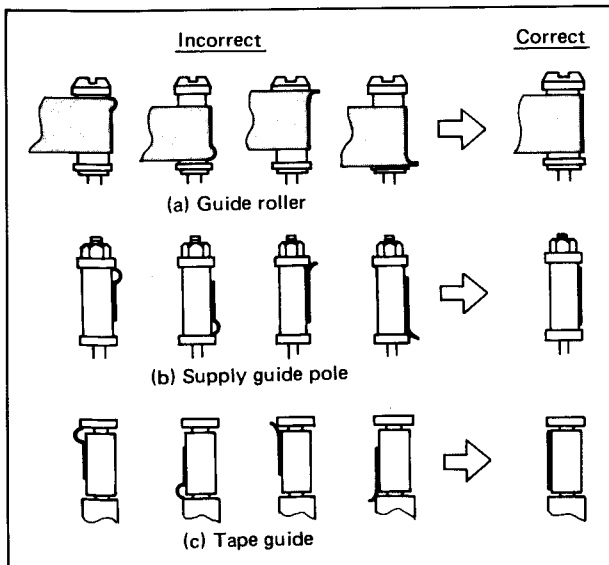

Fig. 4-38 Guide roller and Guide pole
2. Operate the machine between Play and Stop modes several times. During Loading and Unloading, observe the tape at the supply and take-up guide rollers, supply guide pole and tape guide. Confirm absence of curling, wrinkling, etc. as shown in Fig. 4-38.
5. During Play and search FWD modes, observe the tape at the supply guide pole, supply guide roller, take-up guide roller and tape guide. Confirm absence of curling, wrinkling, etc. as shown in Fig. 4-38.
6. During Search REV mode, confirm that the tape guide does not contact the tape and absence of curling, wrinkling, etc. at the supply guide pole, supply guide roller and take-up guide roller as shown in Fig. 4-38.
2. Use a nutdriver to turn the supply guide pole to align the upper flange of the guide pole with the upper edge of the tape as shown by (b) of Fig. 4-38.